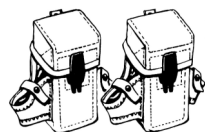

Fig. 8-14 Small-Arms Ammunition Case
**Small Arms Ammunition Case.** The small-arms ammunition case (Figure 8-14) holds three 30-round magazines (M16 rifle). The case has fragmentation grenade pockets on each side and a plastic fastener that can be opened and closed with one hand.